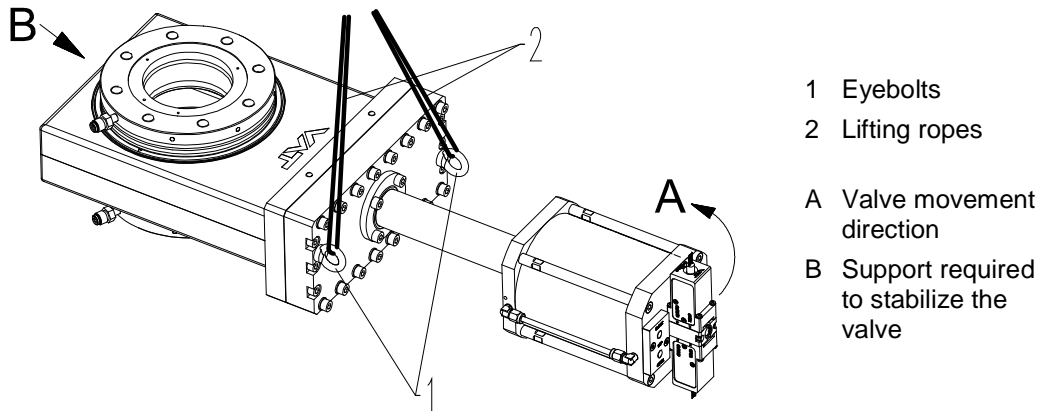

Figure 4-1
Open the outer plastic bag protecting the valve only at the points where you need access to the eyebolts (1) for fastening the crane hooks; see «Figure 4-1» on page 10. Keep valve in the plastic bag until it is being installed into the system.
| | <p>Wrong lifting Valve may crash and get damaged. Use only the eyebolts shown in the dimensional drawing and in «Figure 4-1» on page 10 to lift the valve. Using any other components (e. g. position indicators, solenoids) to lift the valve is strictly forbidden.</p> |
Use a crane for lifting valve DN100 and higher out of the transport box; see «Figure 4-1».